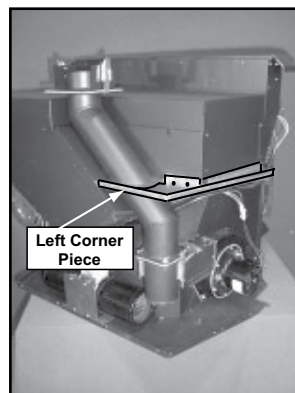

Figure 17.4
4. Install the left shroud panel corner at 3 points, 2 screws into back of hopper and 1 down into the filler piece). **Figure 17.4**